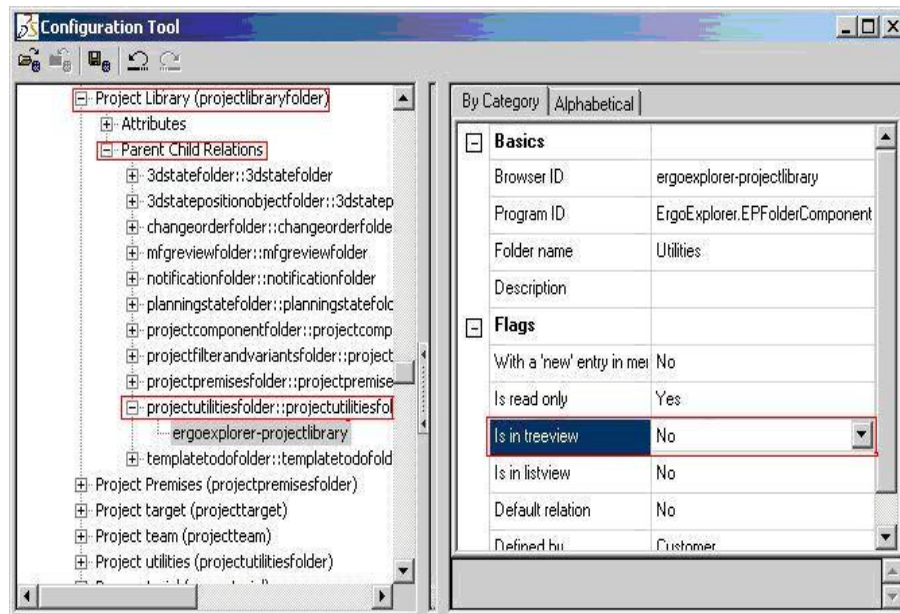

Figure 107: Display Folder in Project Library
- 3) Set the entry **Tree view** to **Yes** in the parent-child information. *Please refer to the Figure 107.*